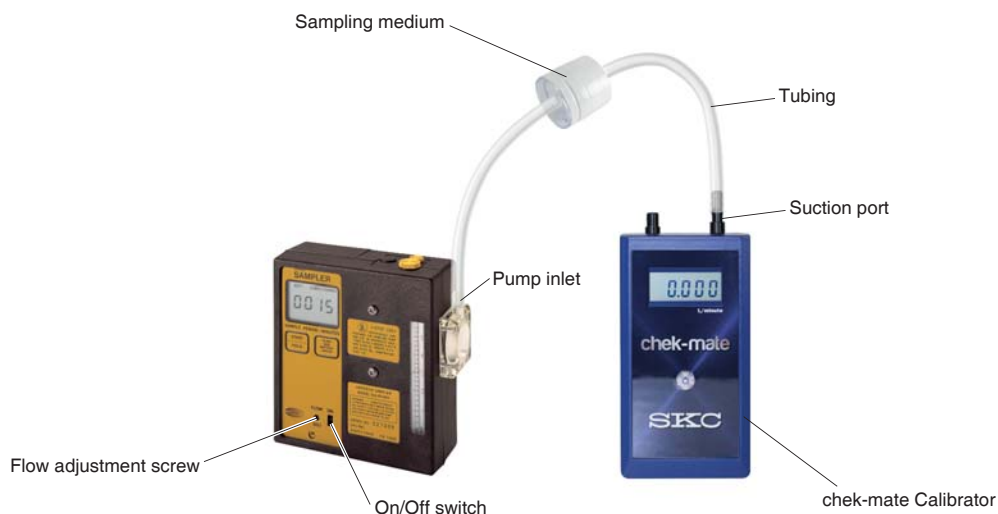

Figure 2. Calibration Train with Filter Cassette
6. Using 1/4-inch Tygon tubing, connect the sampling medium outlet to the pump inlet (*Figure 2*).
1. Start the pump using the on/off switch (*Figure 2*). Press Start/Hold and then press Flow and Battery Check. Adjust the flow rate by turning the flow adjustment screw (*Figure 2*) until the built-in rotameter reads approximately 1.5 L/min. The LCD should show BATT OK in the upper left corner. If it does not, recharge the battery. Press Flow and Battery Check to place the pump in Hold.
2. Remove the cap screw covering the regulator valve (*Figure 2*) and turn the exposed screw four to five turns **counterclockwise**.
3. While the LCD displays HOLD, start sampling by pressing Start/Hold (SAMPLE RUNNING will be displayed) (*Figure 2*), and record the start time.